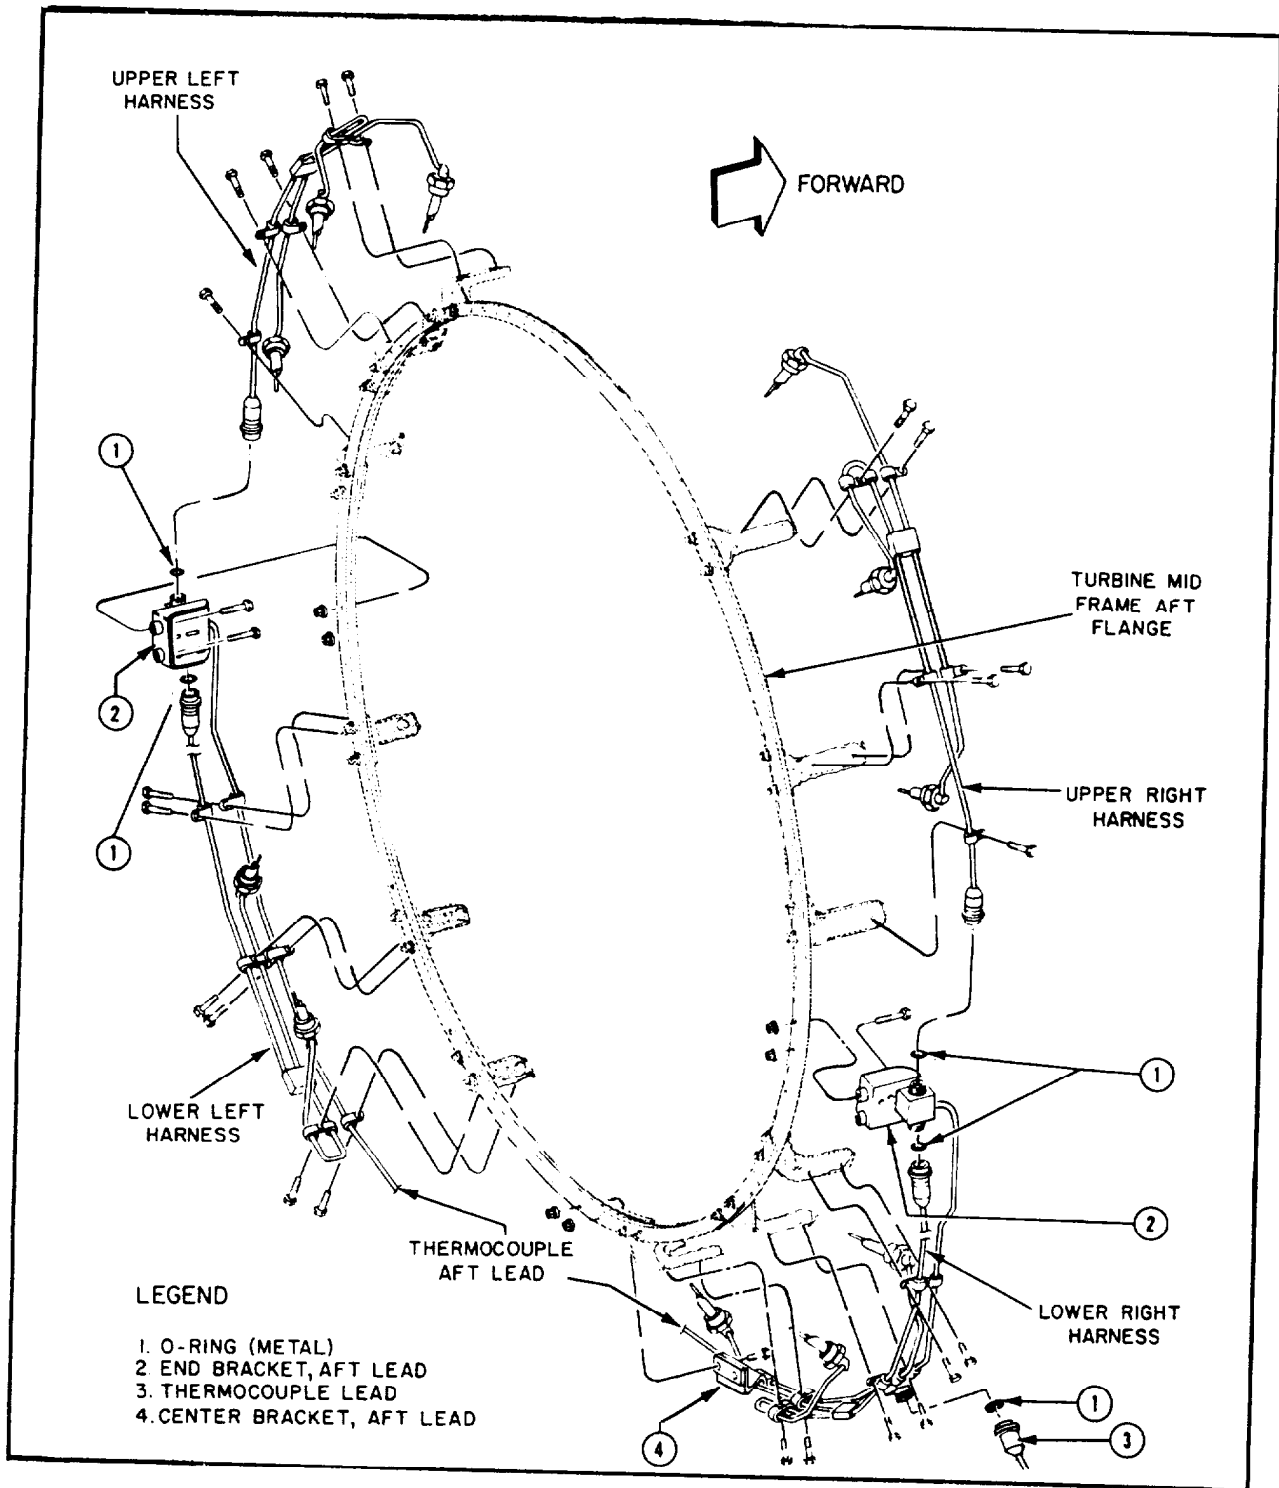

Figure 5-8.—LM2500 thermocouple harness.
**LM2500 THERMOCOUPLES.**—The LM2500 uses eleven thermocouples to monitor  $T_{5.4}$ . Individual thermocouples cannot be replaced though, as they are arranged in four groups. These groups, or harnesses, are the components you must change if you have a faulty thermocouple. Figure 5-8 shows the four harnesses. You should note that the two upper harnesses and the lower right harness each contains three thermocouples. The lower left harness has only two thermocouples. Be very careful when you replace a harness. Take care not to damage a probe or bend the harness. For complete detailed information on replacement of thermocouple harnesses, refer to the *Propulsion Gas Turbine Module LM2500*, Volume 2, Part 3, NAVSEA S9234-AD-MMO-050.